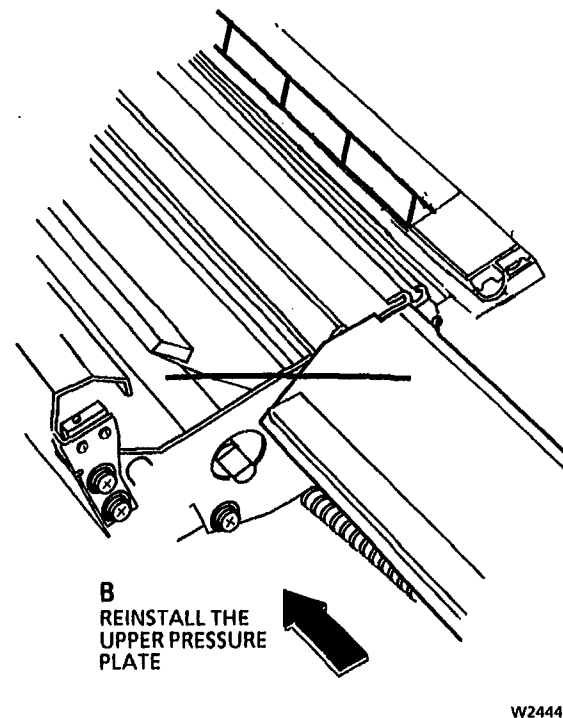

Figure 5. Reinstalling the Upper Pressure Plate
3. (Figure 5): Reinstall the Upper Pressure Plate.